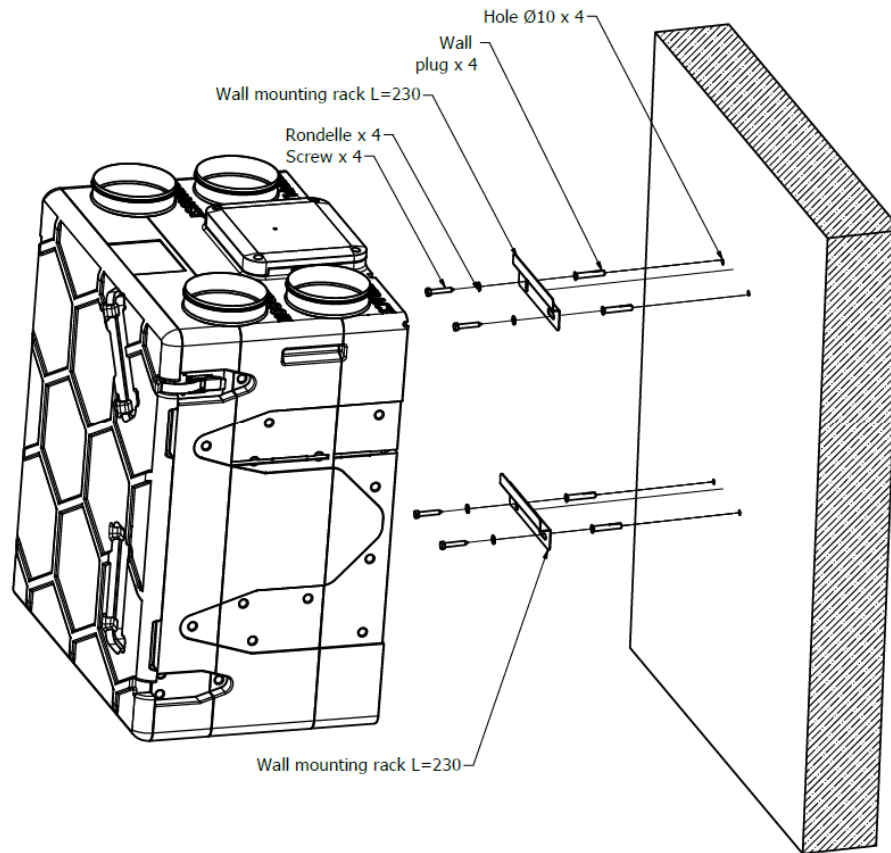

Figure 13 – wall rack installation
- All mounting accessories are included as standard: Ø10 mm wall plugs, Ø10 mm screws and rondellers (see figure 13).